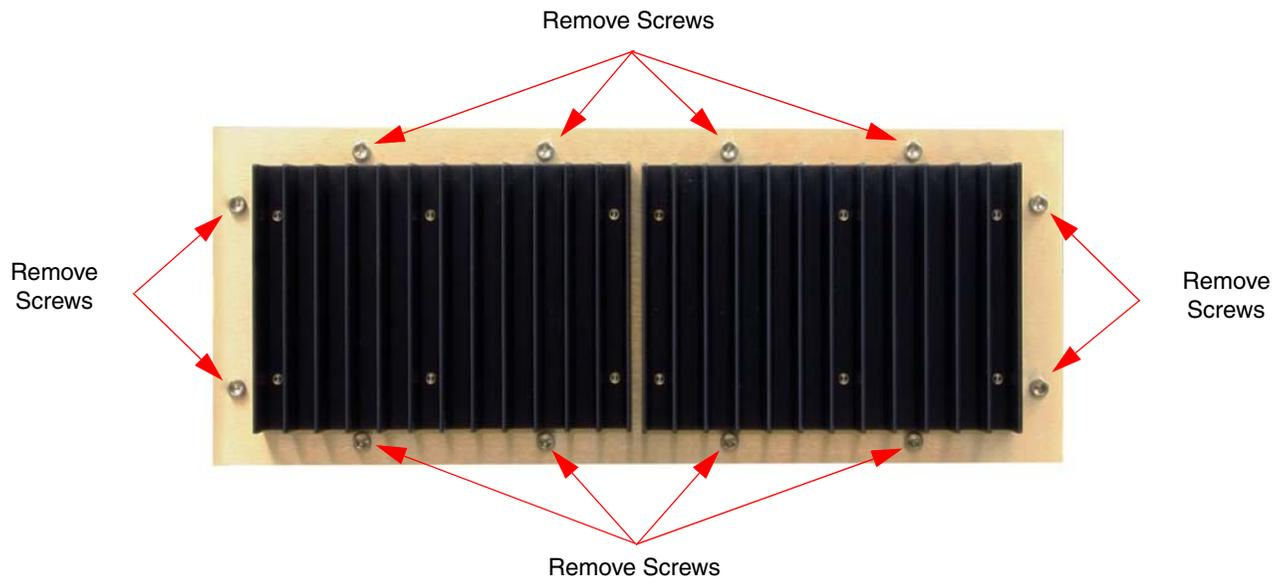

Figure 25: Remove mounting screws to detach power supply from cabinet.
- 5) Remove the 12 hold down screws (5/32" hex head) that hold the power supply assembly to the cabinet. The screw heads are accessible from the heatsink side of the assembly. Refer to **Figure 25**.